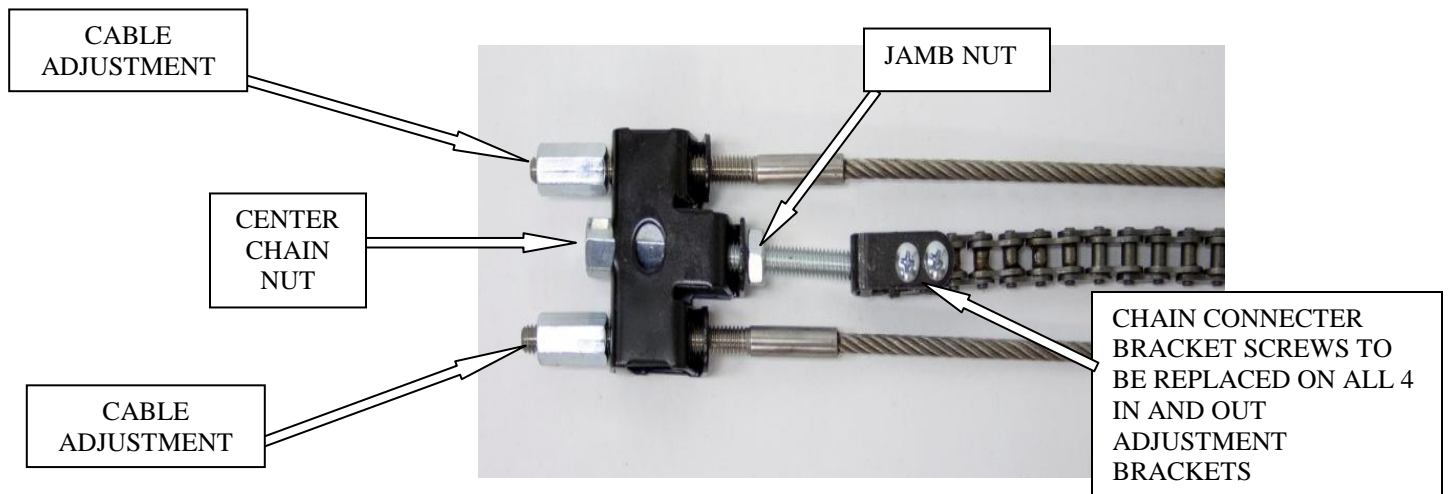

Fig. 1
- Step 4** Loosen all center chain nuts (all 4 in and out adjustment brackets), leaving the jamb nuts and cable adjustment nuts in place. See Figure 1.